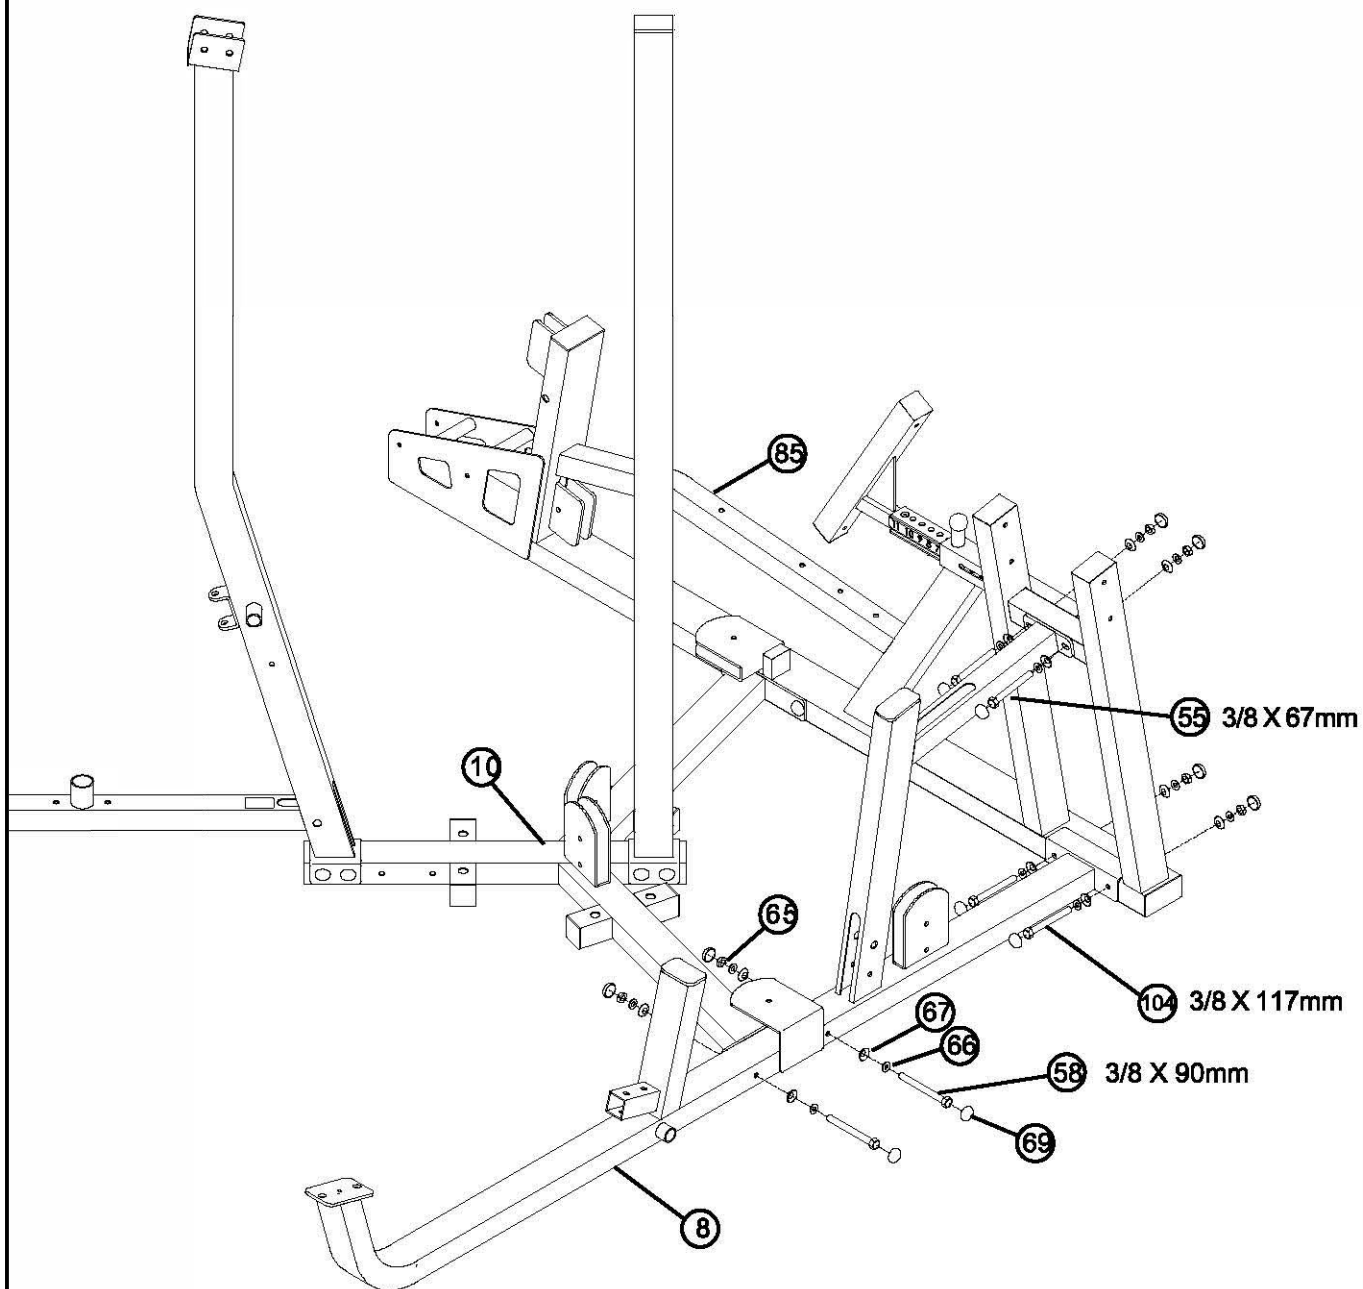

**FIGURE 3**
- **LOOSELY** assemble the TOWER UPRIGHT (9) to the TOWER BASE (10) using four RH CAPS (69), two 3/8 X 97mm BOLTS (59), four 3/8" SAE WASHERS (66), four 3/8" RH WASHERS (67) and two 3/8" LOW HEIGHT LOCK NUTS (65) as shown in FIGURE 3. (NOTE: REPLACE CAP AFTER ASSEMBLY.)